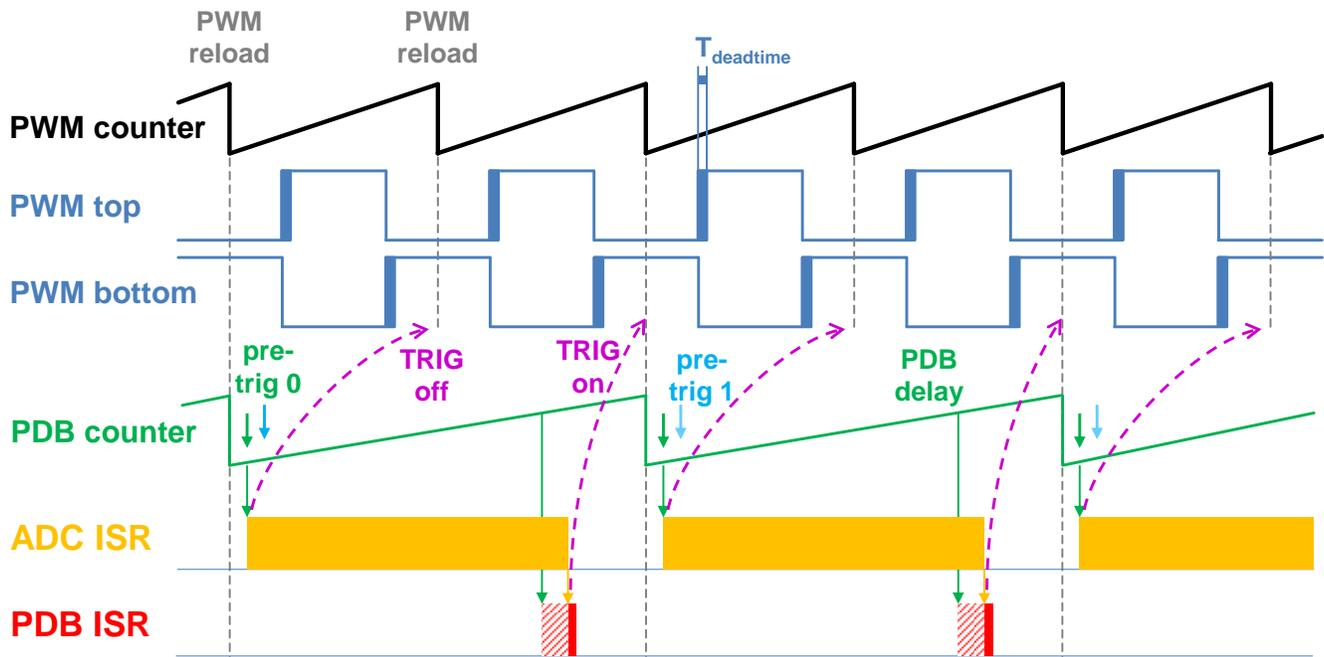

Figure 5. Hardware timing and synchronization on KV31F
- The PDB Delay interrupt is enabled. This interrupt is generated when the PDB\_IDLY is reached. This interrupt enables the FTM\_TRIG (Figure 5).